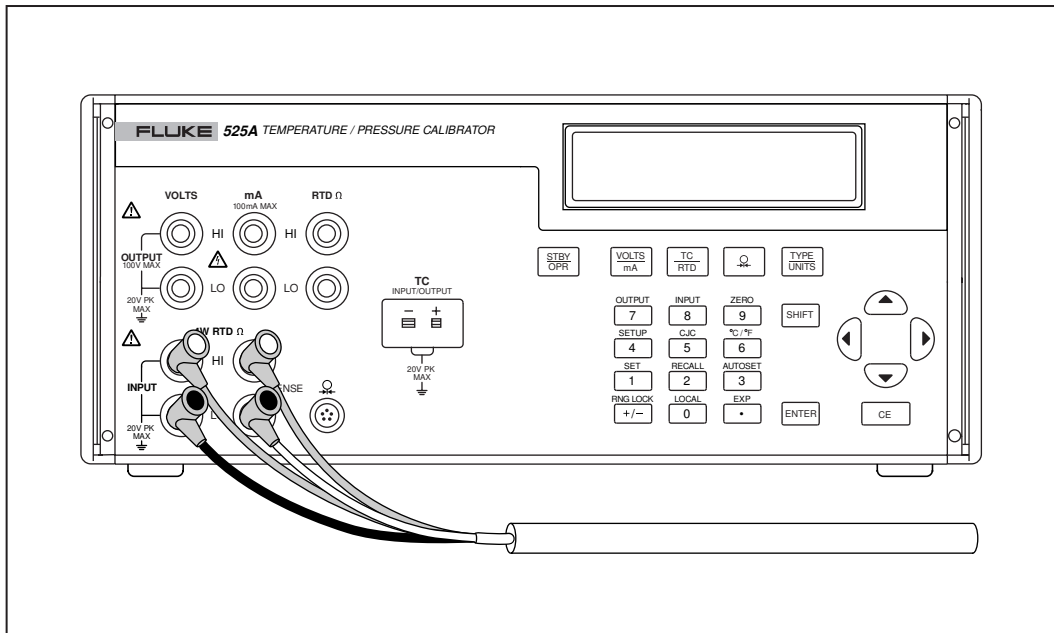

Figure 3-4. Measuring Temperature using an RTD Probe
1. Connect an RTD probe to the Calibrator as shown in Figure 3-4.